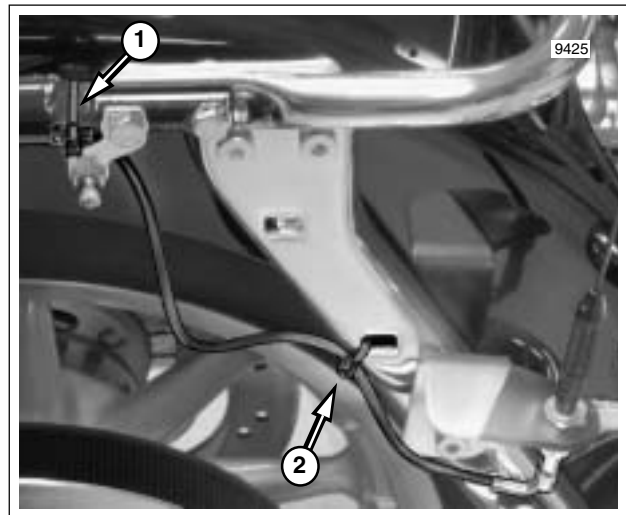

Figure 8-171. Capture Radio Antenna Cable
9. Carefully cut cable strap to release radio antenna cable from shoulder of upper frame tube (just in front of air valve mounting bracket). Cut cable strap to release radio antenna cable from slotted hole in rear fender support. See Figure 8-171.
upper frame tube (just in front of air valve mounting bracket). Using slotted hole, install **new** cable strap to secure radio antenna cable to rear fender support. See Figure 8-171.